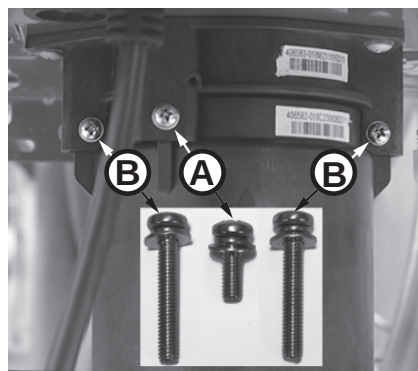

Figure 239 - Identify cartridge screws
- 5 Locate the three (3) screws securing the X3®/Bypass cartridge as shown in Figure 239. Remove the (A) M4-12mm screw and the two (B) M4-25mm screws from cartridge. Place screws aside in a safe place for reinstallation.